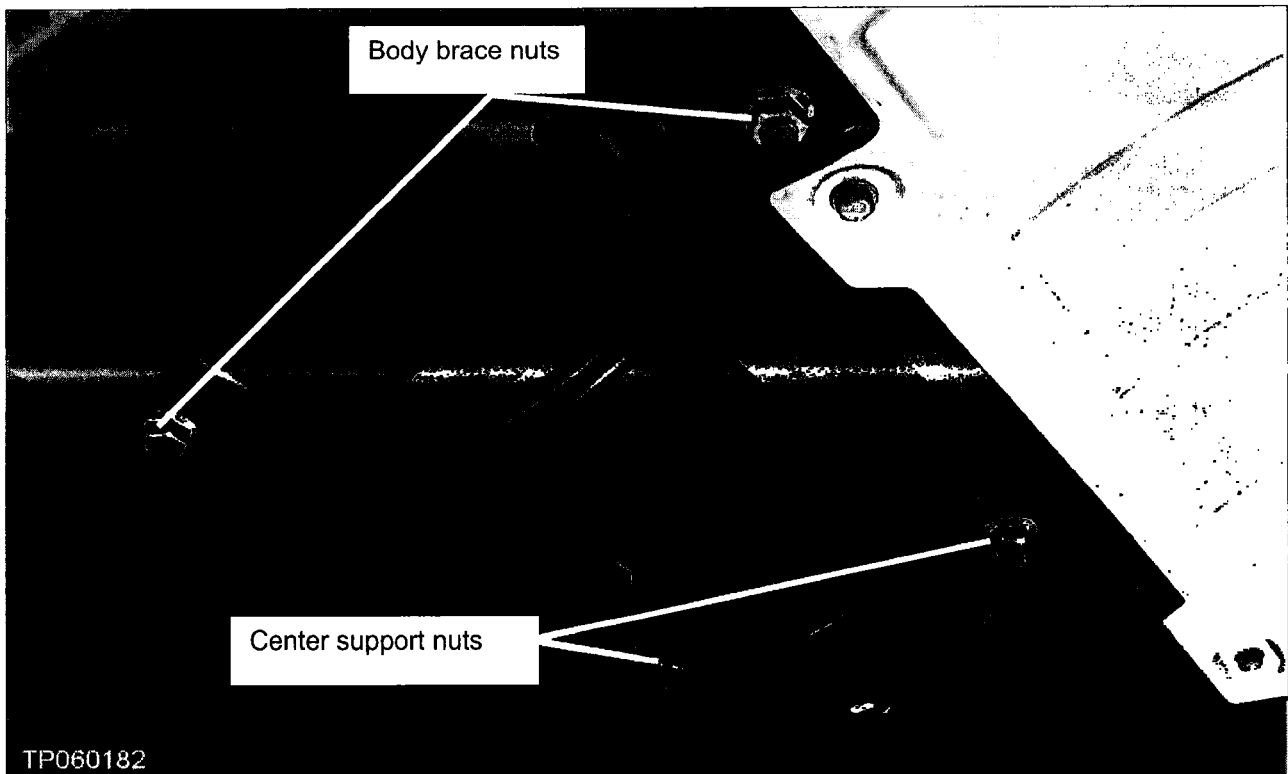

Figure 18
8. Remove the propeller shaft center support nuts and the body brace nuts shown in Figure 18.